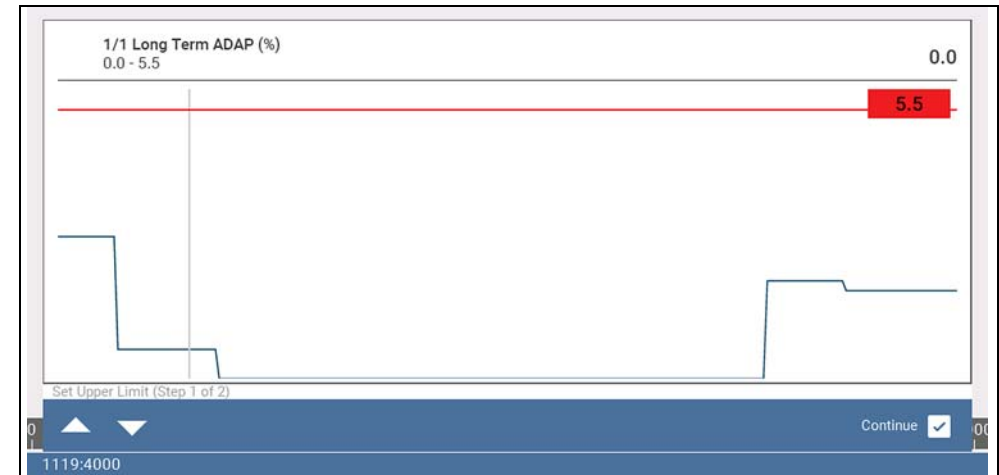

Figure 4-29
A graph of the highlighted PID and setup icons display (Figure 4-29).
The upper trigger point must be set first. A red horizontal line is displayed across the data graph (Figure 4-29) representing the upper trigger point.
4. Use the lower toolbar arrow icons (Figure 4-29), or the up ▲ and down ▼ arrow buttons to change the position of the upper trigger point.